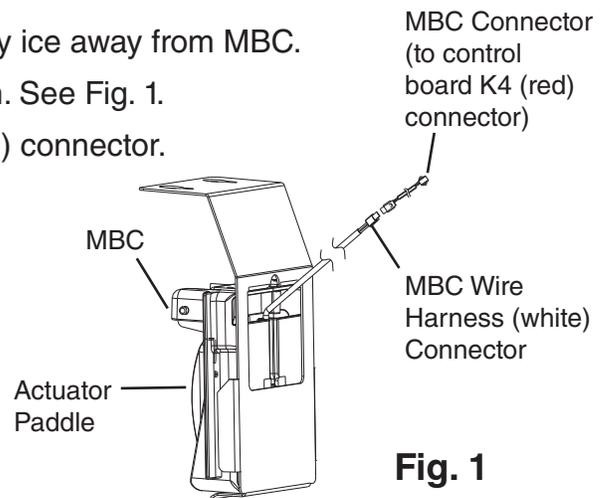

Fig. 1
- 3) Check MBC wire harness (white) connection. See Fig. 1.